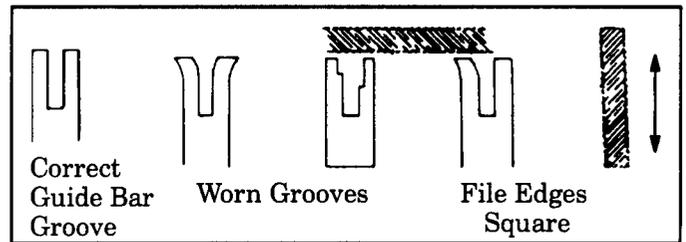

Figure 35
- d. Remove burrs by filing the side edges of the guide bar grooves square with a flat file. Figure 35 .
- e. Restore square edges to an uneven rail top by filing with a flat file. Figure 35 .